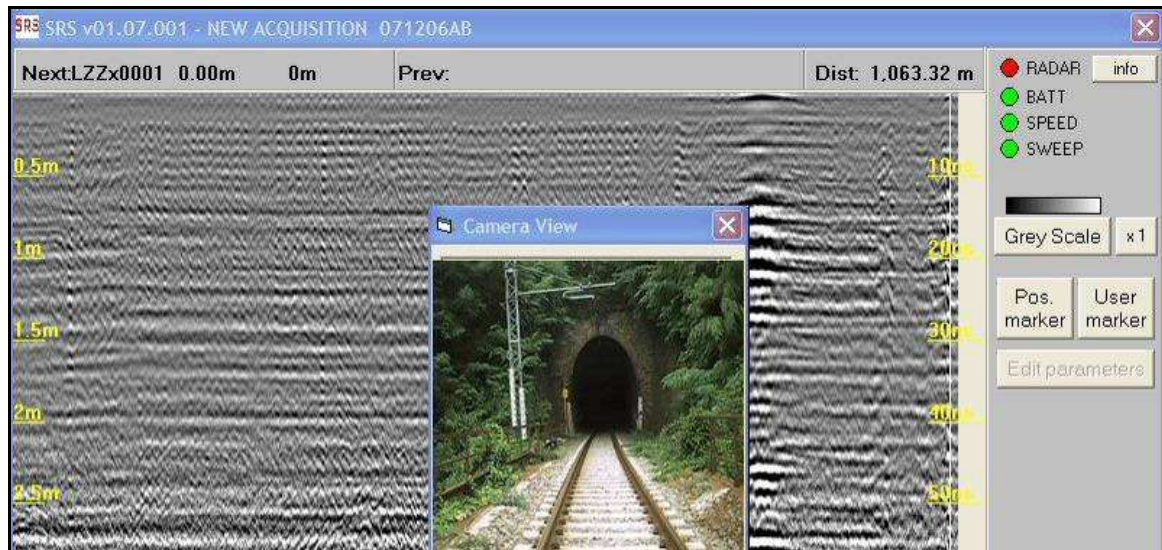

Fig. D. 5 – Camera View window
Step 7 As the user will start acquisition, the **Camera View** window (shown in Fig. D. 5) will appear on the screen, besides the radar section in progress with the movement of the Safe Rail System.